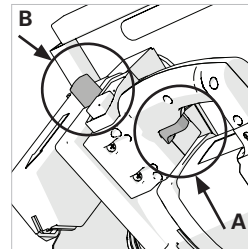

Fig. 11a + 11b
4. The Mitre Saw On/Off Trigger Switch Operation (Fig. 11a)